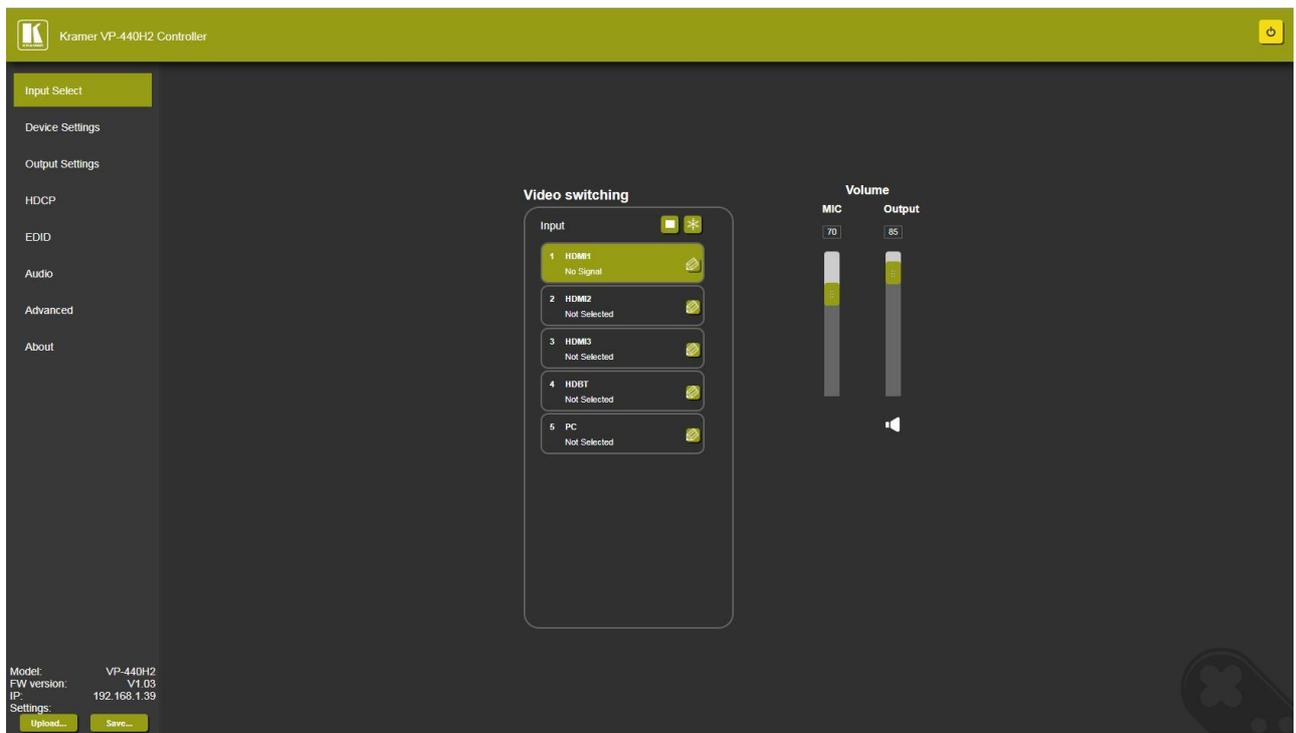

Figure 11: Controller Application Page with Navigation List on Left
1. Click **Input Select** on the left side of the web page (Figure 11).
1. Click **Device Settings** on the left side of the web page (Figure 11). The Device Settings page appears.
1. Click **Device Settings** on the left side of the web page (Figure 11).
1. Click **Output Settings** on the left side of the web page (Figure 11).